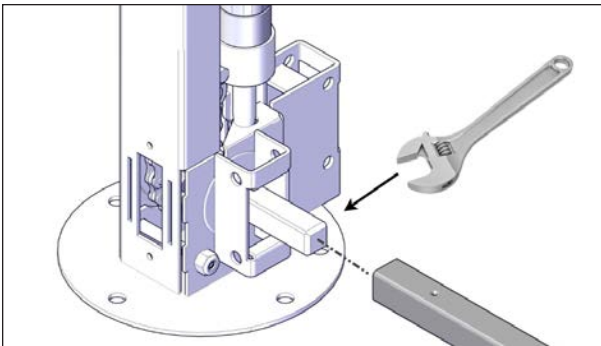

FIGURE 52: DRIVE SHAFT INSTALLATION
9. Hold the left-hand non-motor-side jack assembly upright and in line with the left drive shaft. Use a 3/4" adjustable wrench to carefully rotate the square shaft of the jack to align with the drive shaft Figure 52.